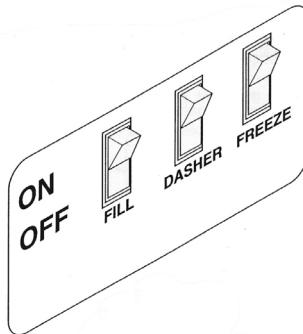
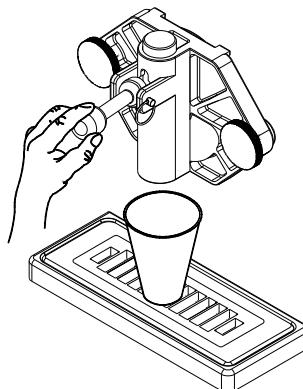

Fig. 5
Fig. 6
1. Set the dasher switch (Fig. 5) to the “ON” position, turn off the fill and freeze switches, and dispense all product from the freezing cylinder by pulling downward on the spigot handle (Fig. 6) to empty the machine.
2. Set the dasher switch (Fig. 5) to the “OFF” position. Close the spigot handle (Fig. 6) before proceeding to cleaning.